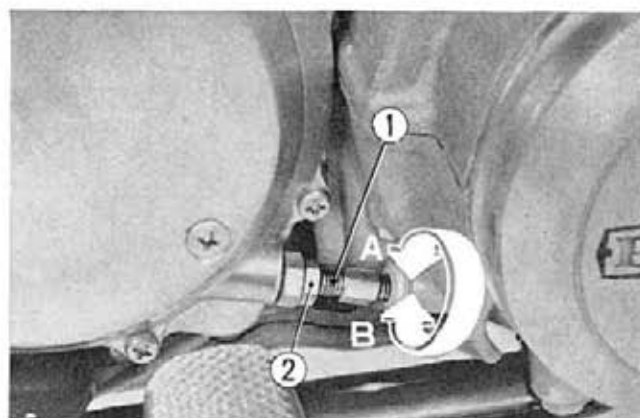

Fig. 19-12 ① Clutch cable adjusting bolt
- b. Turn the clutch cable adjusting bolt located at the clutch housing, in the direction ① to loosen the clutch cable. (Fig. 19-12)
- d. Turn the clutch cable adjusting bolt located at the clutch housing lower right side of the engine in the ② direction so that there is approximately 3/4 of free play at the clutch lever; then tighten the lock nut. (Fig. 19-12)
- (3) The nominal clutch lever free play is 0.4-1.0 in (10~25 mm) measured at lever end before the clutch starts to disengage.